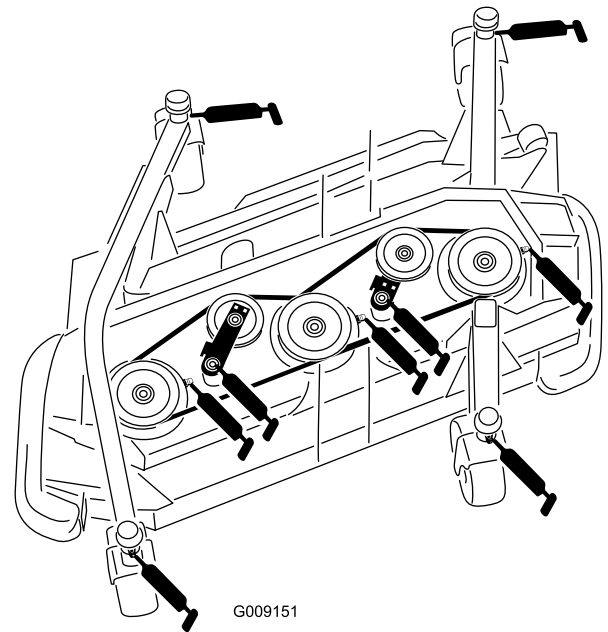

Figure 56
- 4 castor fork shaft bushing (Figure 56)
- 3 spindle shaft bearings (located on spindle housing) (Figure 56)
- 2 idler arm pivot bushings (located on the idler pivot shaft) (Figure 56)